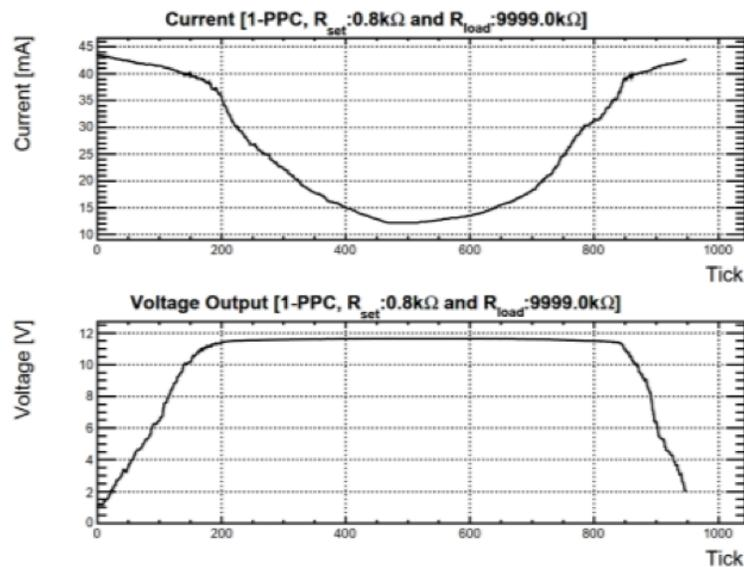

Figure 1 Power scan of PoF sub-unit
- Our present testing is showing very good results but more needs to be done on the prototype housing. The design is modular with a series of small PoF units summed to reach desired power. Figure 1 below show the result of scanning a load using single PoF cell (sub-unit) in an argon bath. We expect each PoF power unit to use 6 to 8 PoF cells. Figure 2 shows PoF voltage at SiPM in liquid argon (with no regulation unit).